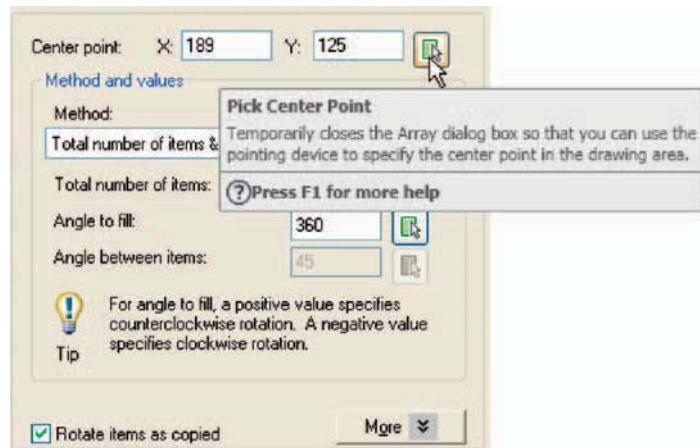

Fig. 5.21 Second example – Array – the Pick Center point button
3. Click the **Select objects** button of the dialog and window the drawing. The dialog returns to screen. Click the **Pick center point** button (Fig. 5.21) and when the dialog disappears, pick a centre point for the array.